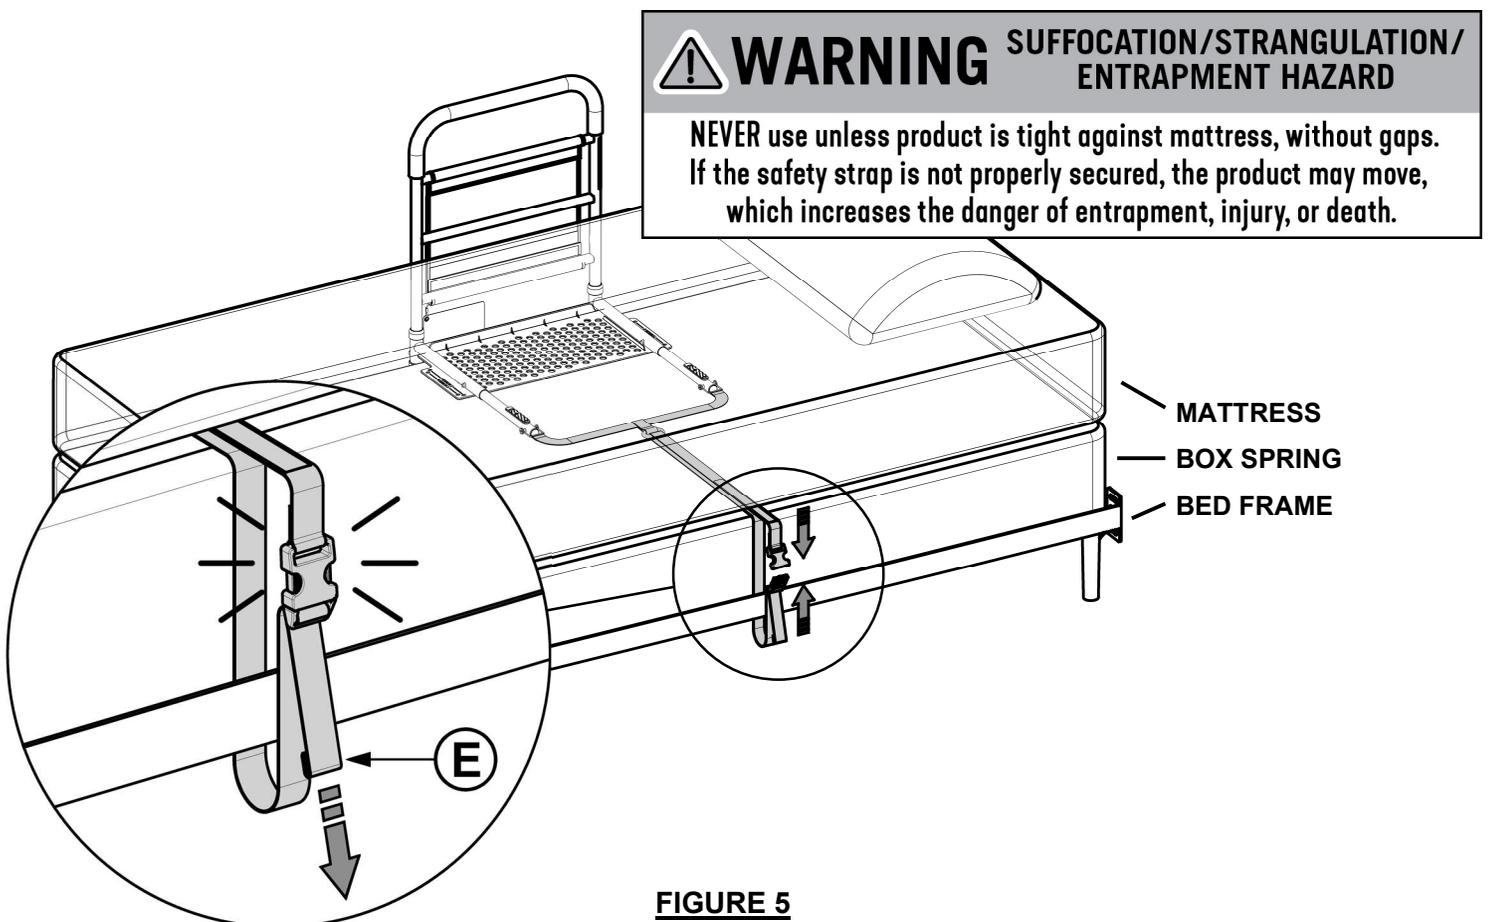

FIGURE 5
5. Place base of product directly under MATTRESS and extend SAFETY STRAP (E) below mattress to the opposite side of bed. Unbuckle strap, loop around BED FRAME and re-buckle and tighten SAFETY STRAP to secure bed rail product against side of the mattress as shown in *FIGURE 5*.